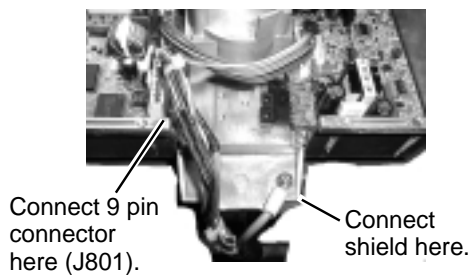

Figure 8 How to connect the antenna cable to the antenna unit
8. Referring to Figure 8, fasten the shield cable with screw (M4x10) on the chassis to ground the unit.
10. Referring to Figure 8, connect the 9-pin connector of the antenna cable to J801.